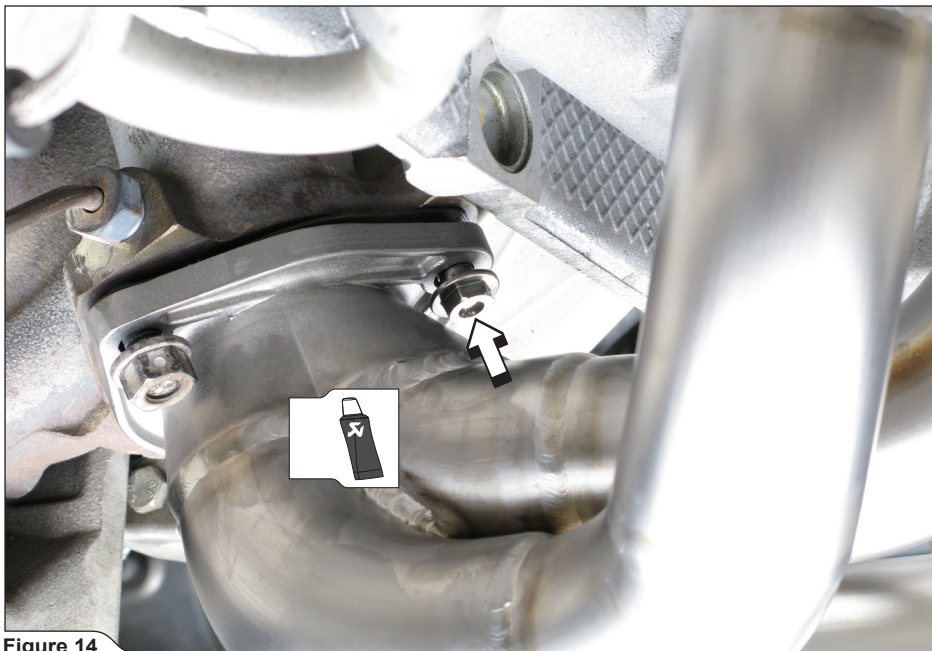

Figure 14
1. **For Evolution Race and Upgrade Kit1/2:** set the left and right Akrapovič headers with new stock gaskets and hand tighten all bolts and nuts first (**Figure 14, 15**). Tighten bolts and nuts to a specified torque using criss-cross pattern in three steps **on the left side headers only!**
! **WARNING: use marked additional Akrapovič titanium bolt on the LEFT turbine (Figure 14)!**